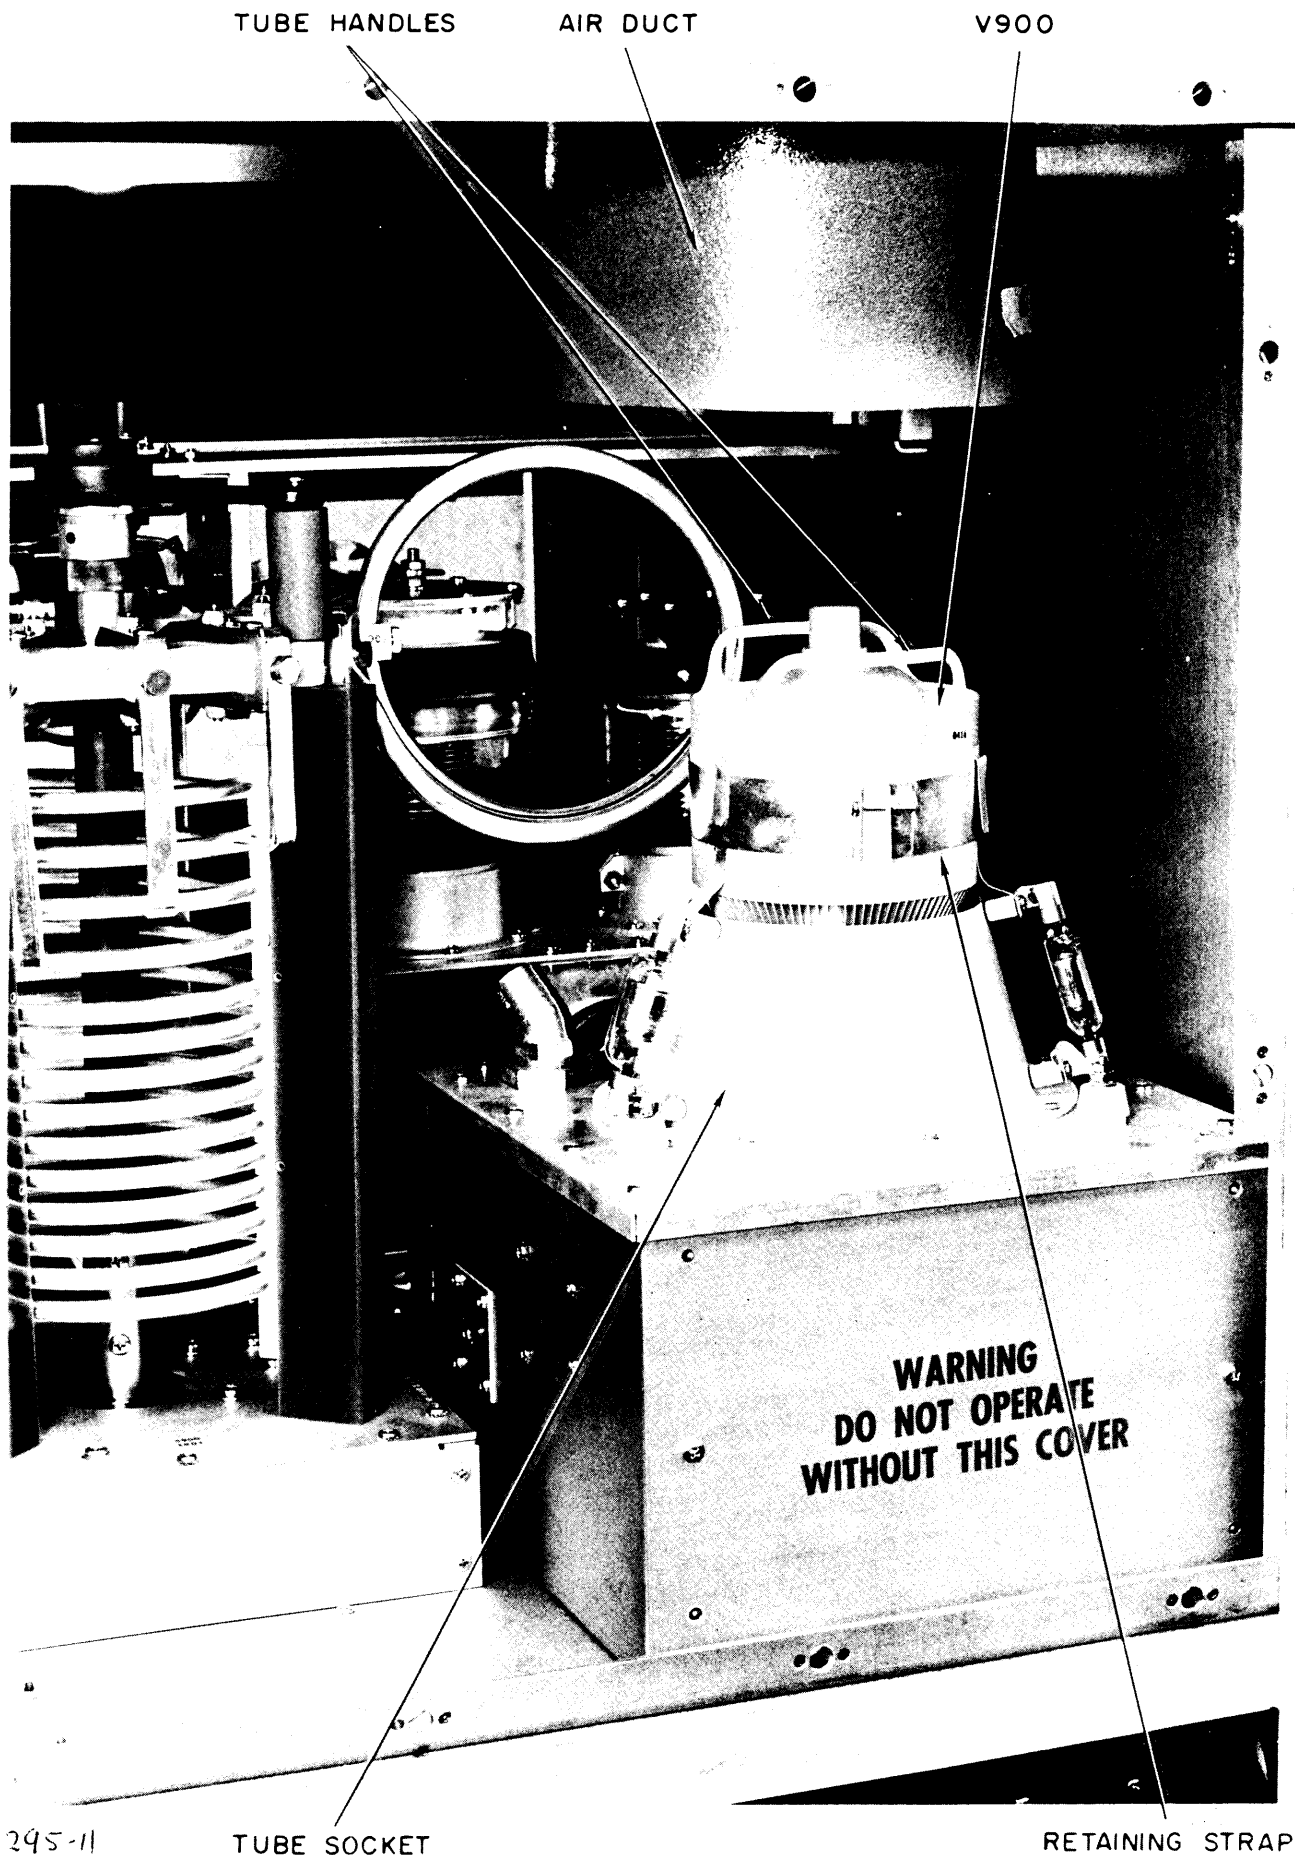

Figure 2-9. Upper Compartment of the Second Frame, Rear View.
- a. Remove hardware from retaining strap (figure 2-9).